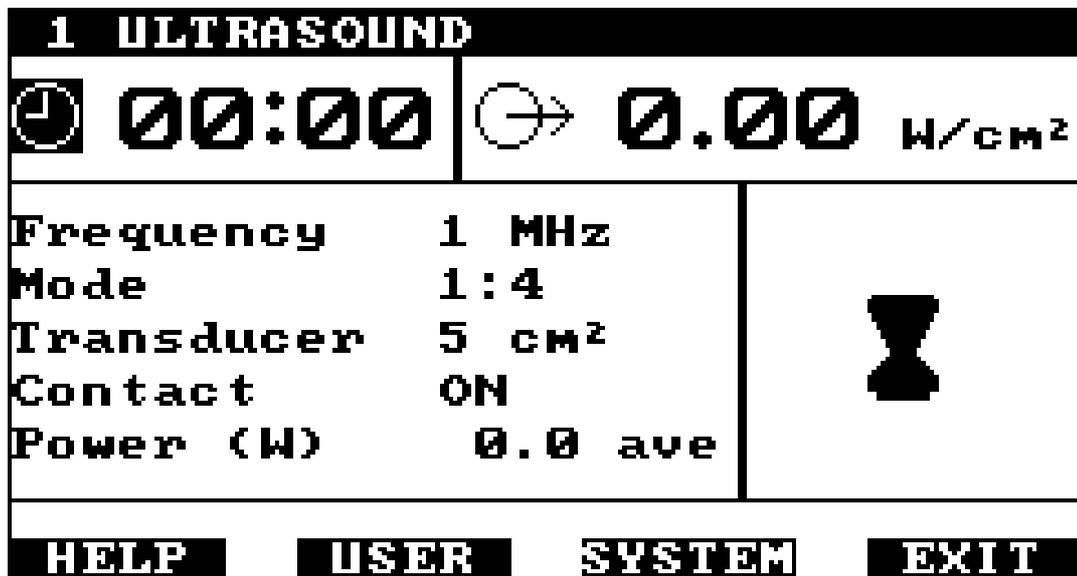

Figure 9 - Ultrasound Set-Up
3. The Medi-Link will run the Ultrasound program and the display will change to show the Ultrasound Set-Up (figure 9). All the current settings of the module are displayed and in the box on the right of the display is a small graphic representation of the selected transducer.